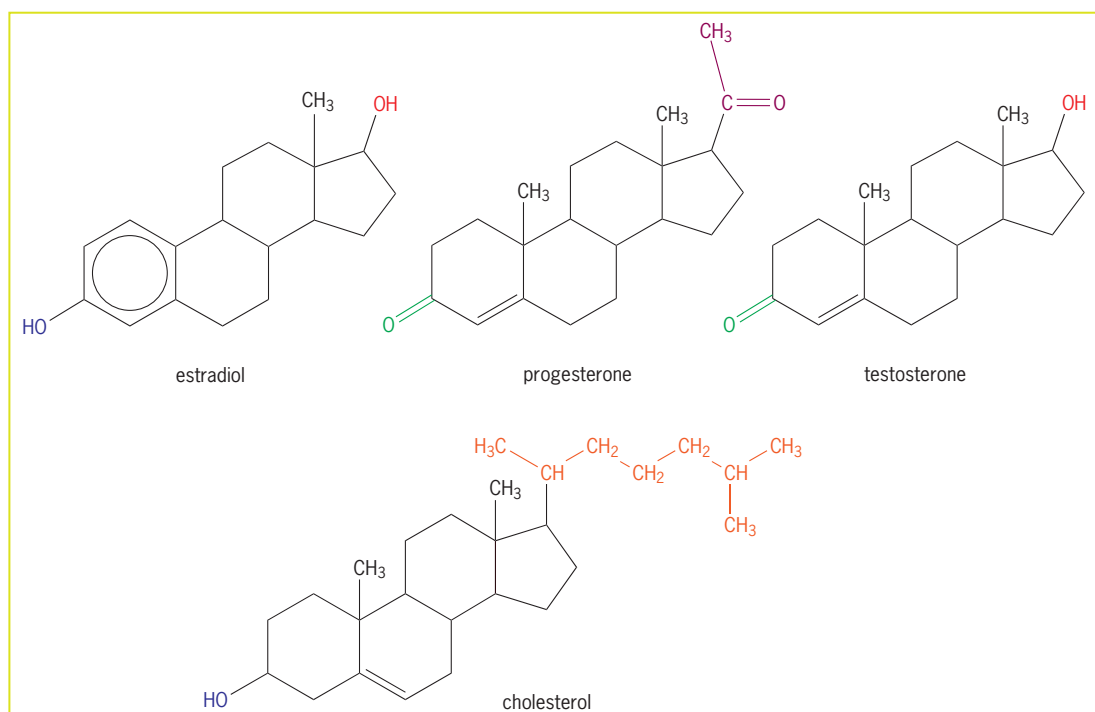

Figure 2.6.2 The structures of estradiol, progesterone, testosterone and cholesterol.
- Refer to figure 2.6.2 to answer these questions.